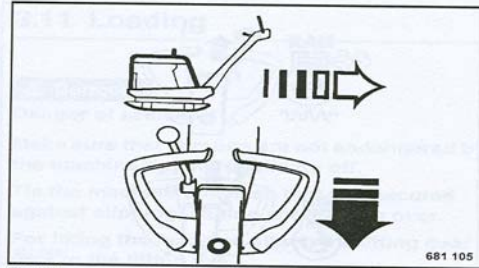

Fig. 24
- Move the travel lever (Fig. 24) backwards, according to the desired speed.